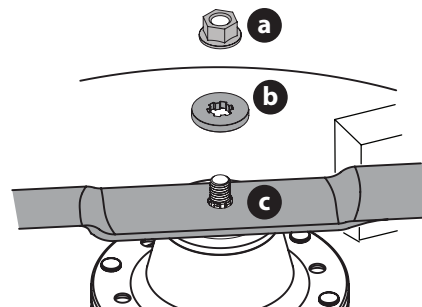

Fig. 56
2. Remove the flange lock nut (a) and flat washer (b) from the spindle shaft and remove the blade (c) (Fig. 56).